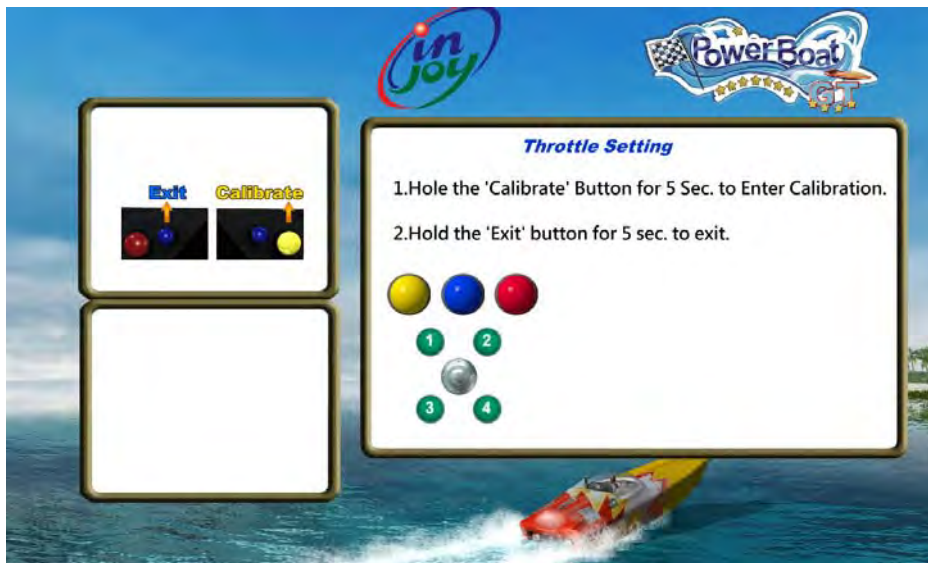
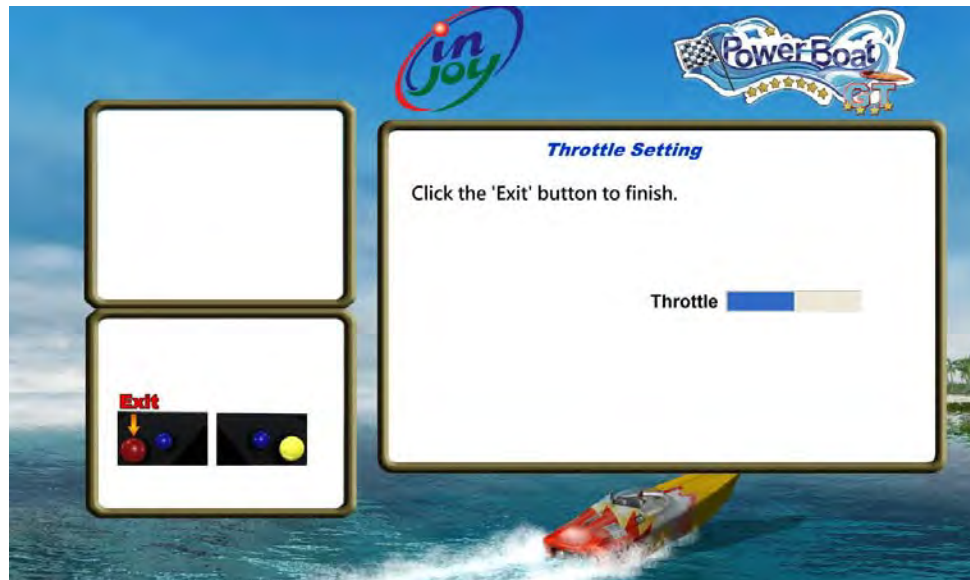

Figure 14 Throttle Setting
Figure 16 Finish calibration
To calibrate the Throttle, follow the directions on the screen and go through steps (Fig14 ~ Fig16):
1. Hold the “Calibrate” button on the Panel to calibrate the throttle (Figure 14).
3. Then Press the “Exit” button to finish Throttle calibration (Figure 16).